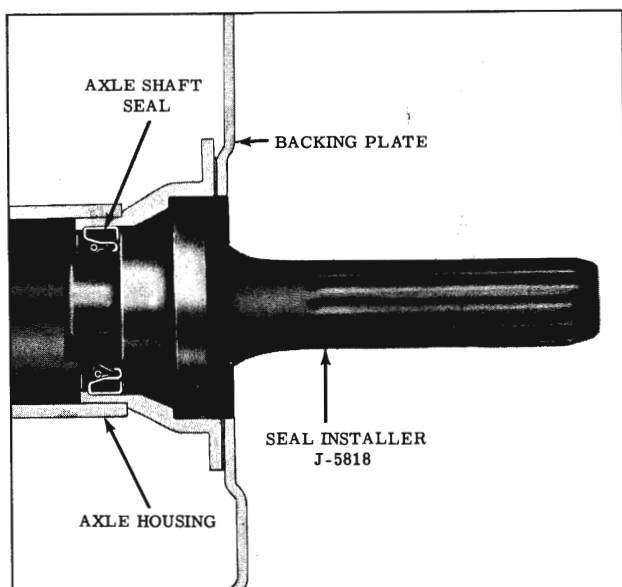

Fig. 5-40 Installing Rear Axle Oil Seal
2. Position seal into axle housing. Drive seal into housing with Tool J-5818 until seal is fully seated. (Fig. 5-40)